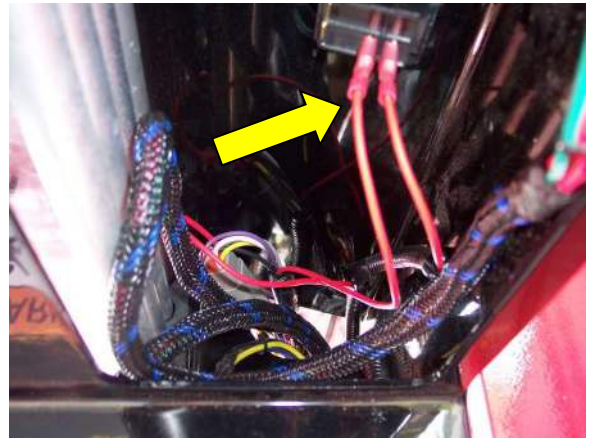

FIG. 13
7. While still underneath the passenger side console, plug the red wires exiting near the connector marked REMOTE (with spade terminals) of the main harness into the switch previously installed (FIG. 13) Connect to the two silver colored terminals that are close together